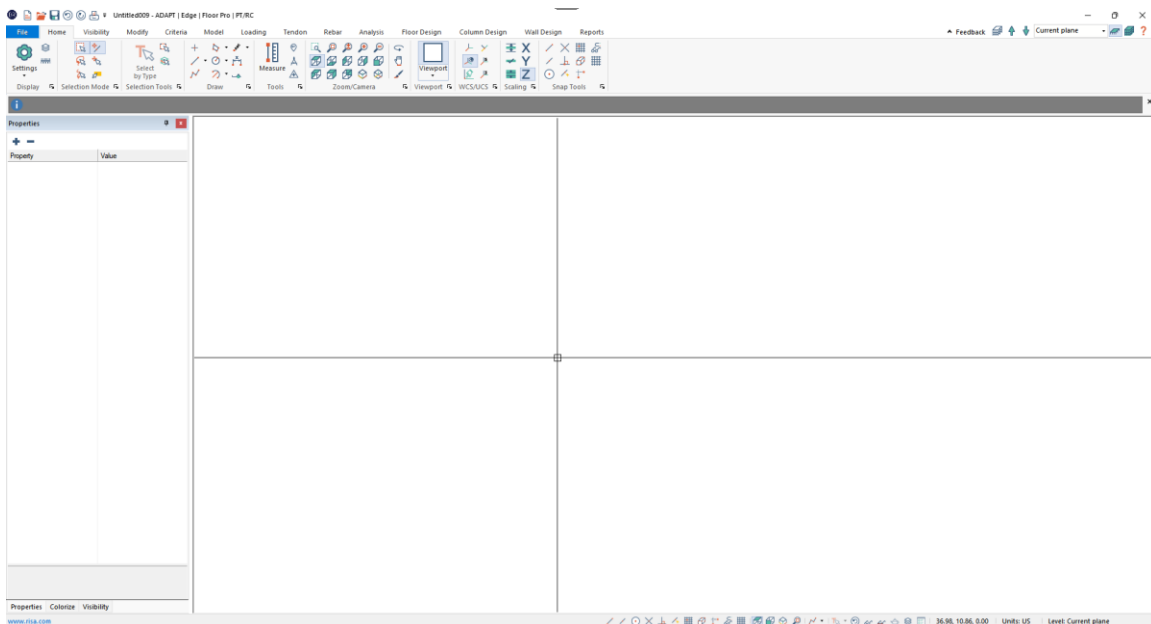

FIGURE 2-4
- Make the same selections as shown above and click the **OK** button to open the program to the ADAPT-Builder user interface as shown in **FIGURE 2-4**. For more information on the options in this window the user can click on the *Help* ? icon to open the web-based help file.